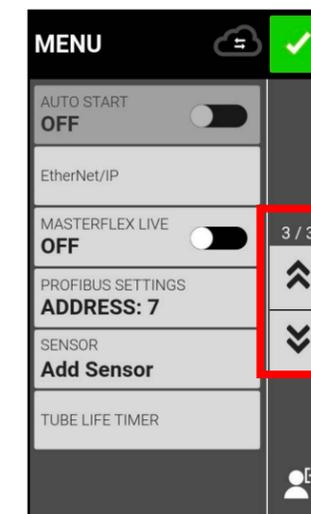

Figure 5
2. The MENU screen displays (see Figure 5 below).